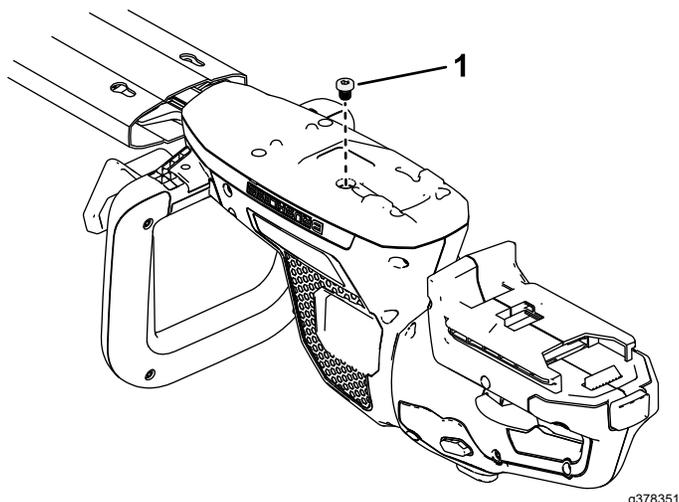

Figure 11
3. Remove the gearbox hex-socket head plug (Figure 11).